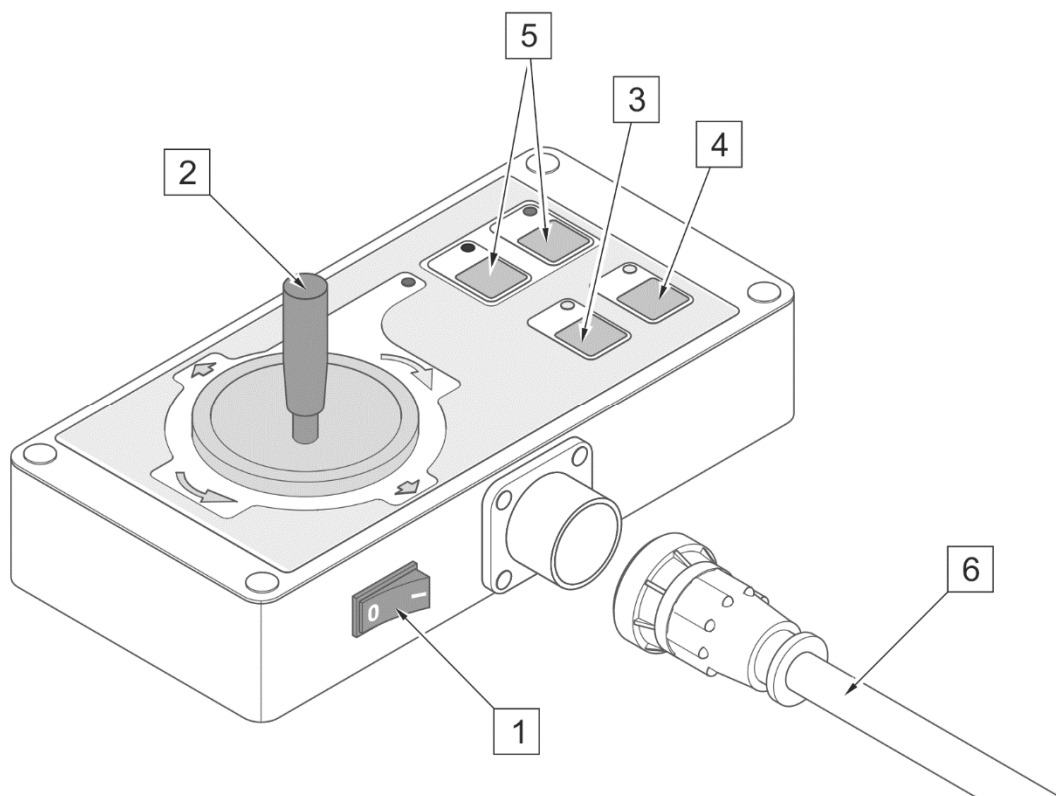

FIGURE 4.10 Control panel
(1) - main switch; (2) - joystick; (3) - linking function switch; (4) - floating position switch; (5) - lighting system switch; (6) - lead
The snowplough's functions are controlled from the control panel. Control panel (FIGURE 4.10) is protected against accidental use by the main switch (1). When the switch (1) is ON, the clearance lights on the snowplough mouldboard and the complete control panel are ON.